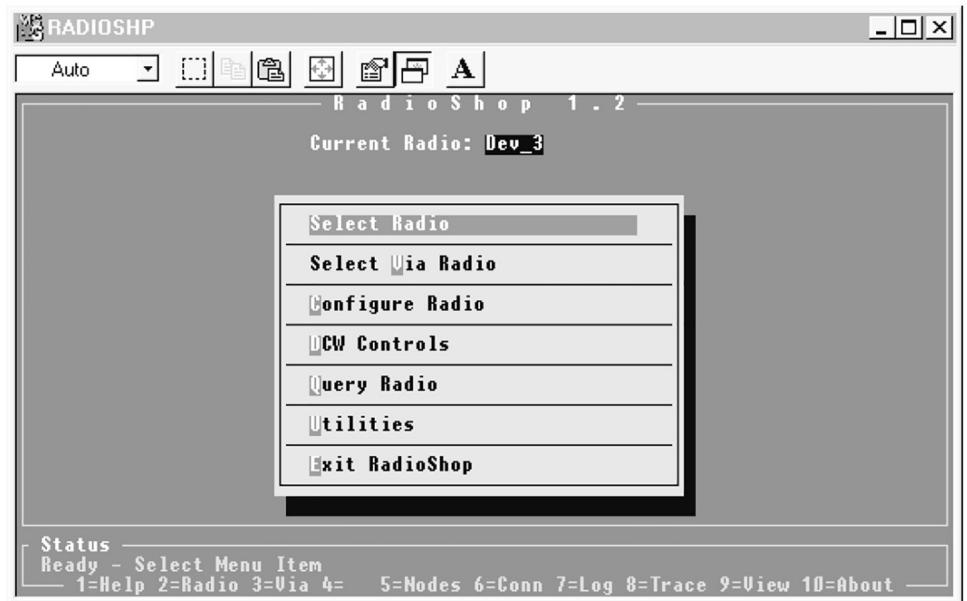

Figure 8. The RadioShop *Main Menu* screen with the selected radio.
- (b) Use the arrow keys to select the **Local Radio** option. Then, press the <Enter> key. The name of the connected radio (for example, “Dev_3”) appears at the top of the RadioShop *Main Menu* screen. See Figure 8.
The name of the connected radio (for example, “Dev_3”) appears at the top of the RadioShop *Main Menu* screen. See Figure 8 on page 11.